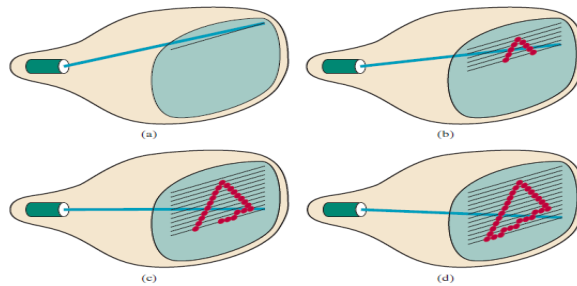

FIGURE 2-7 A raster-scan system displays an object as a set of discrete points across each scan line.
3. These stored color values are then retrieved from the refresh buffer and used to control the intensity of the electron beam as it moves from spot to spot across the screen. In this way, the picture is “painted” on the screen one scan line at a time, as demonstrated in Fig. 2-7.